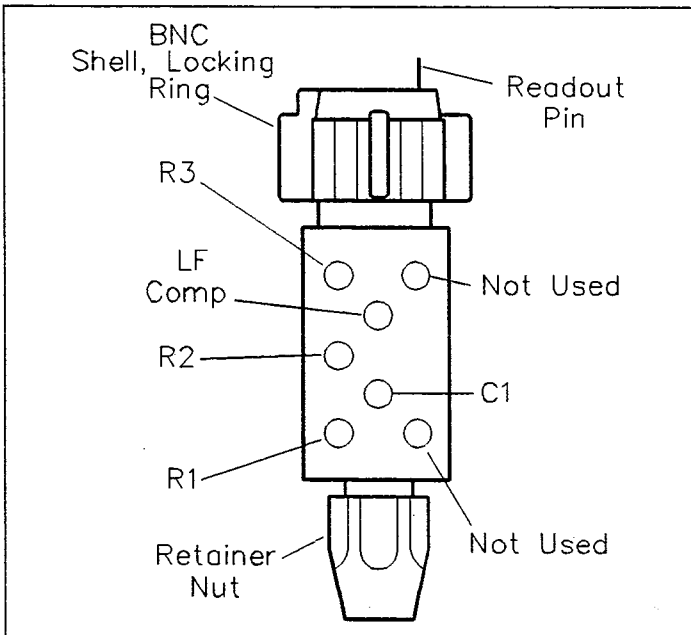
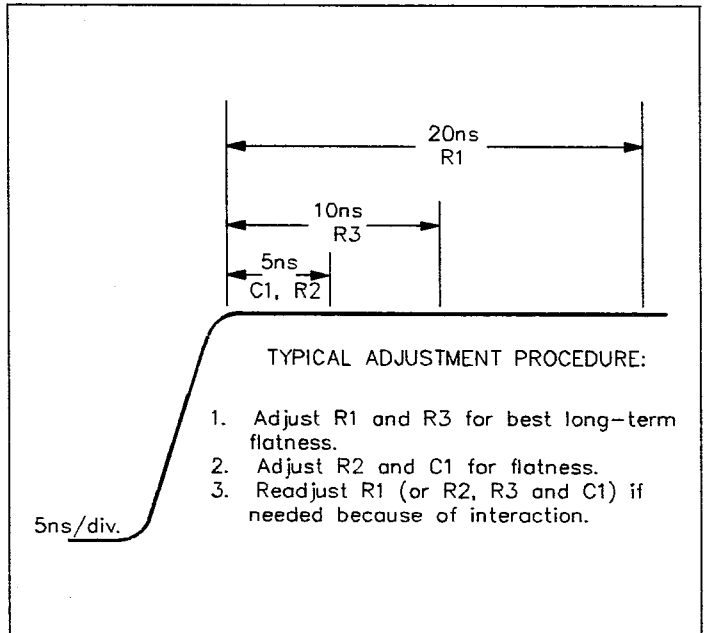

Figure 4. High-Frequency Adjustment Locations.
Figure 5. High-Frequency Adjustments Relative To Affected Areas Of The Waveform.
Refer to Figure 4 & 5 for Adjustment Locations and Control.
c. Disconnect the probe from the scope input and signal source. Remove the top cover from the compensation box using the enclosed adjustment tool. Reconnect the probe (as in part 2b). See Figure 4 for the location of all adjustments, and Figure 5 for identification of the waveform area affected by each adjustment.
d. Remove the probe from the BNC input. Then remove the top cover from the compensation box using the enclosed adjustment tool. Set Time/Div to 5 nS/Div for better resolution of adjustments. Refer to Figure 5. ADJUST R1 and R3 for the best overall flat response. ADJUST R2, and C1 for the best flatness and corner response. Readjust R1 (or R2, R3 and C1) as required. The high-frequency adjustments affect the probe bandwidth. A small overshoot on the leading edge of the pulse may be necessary to meet the bandwidth specification. Reinstall the compensation box cover by reversing the procedure described above.